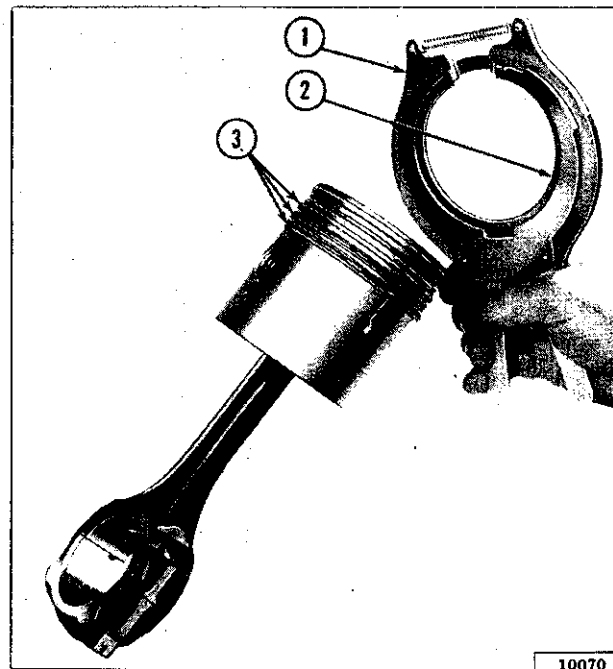

FIG. 42—INSTALLING RINGS ON PISTON
i. Install new ring set using either production replacement rings or oil control rings. Production replacement rings are the same as the original factory installed rings while oil control ring sets have different components, notably the oil ring expander. Follow instructions on ring envelopes for proper installation. Use a piston ring tool to install rings on pistons as shown in Fig. 42. Do not expand rings more than necessary to install, also be careful not to burr the piston with ends of rings. Make sure upper compression ring is installed in groove with correct side up. Position rings so gaps are staggered according to instructions on the envelope.